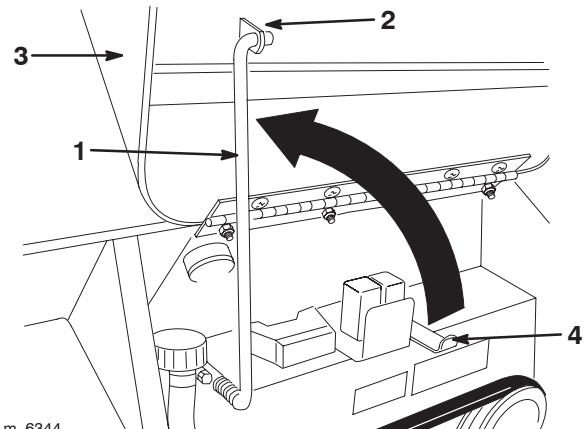

Figure 17
3. Swing the prop rod up and secure it in the bracket on the hood (Fig. 17).
1. Pull the prop rod out of the bracket on the hood and lower it into its holder (Fig. 17).